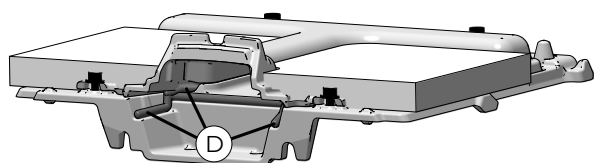

Fig. 7.12
| 7 | Pour new cement (D) into the groove (Fig. 7.12) |